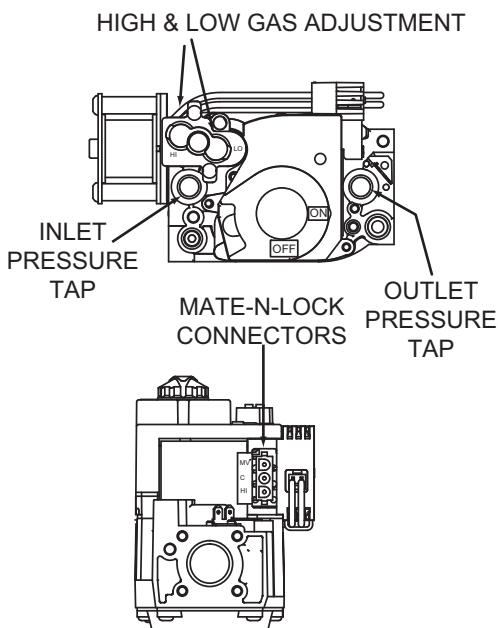

Figure 34: Typical Gas Valve
4. Turn gas valve clockwise to "OFF" position (See Figure 34).
This gas furnace has two heat stages. Therefore, the gas valve has two adjustment screws located under a plastic protective cover. The second stage (100% input) adjustment screw is adjacent to the "HI" marking on the valve and the first stage (60% input) adjustment screw is located adjacent to the "LO" marking on the valve (See Figure 34).